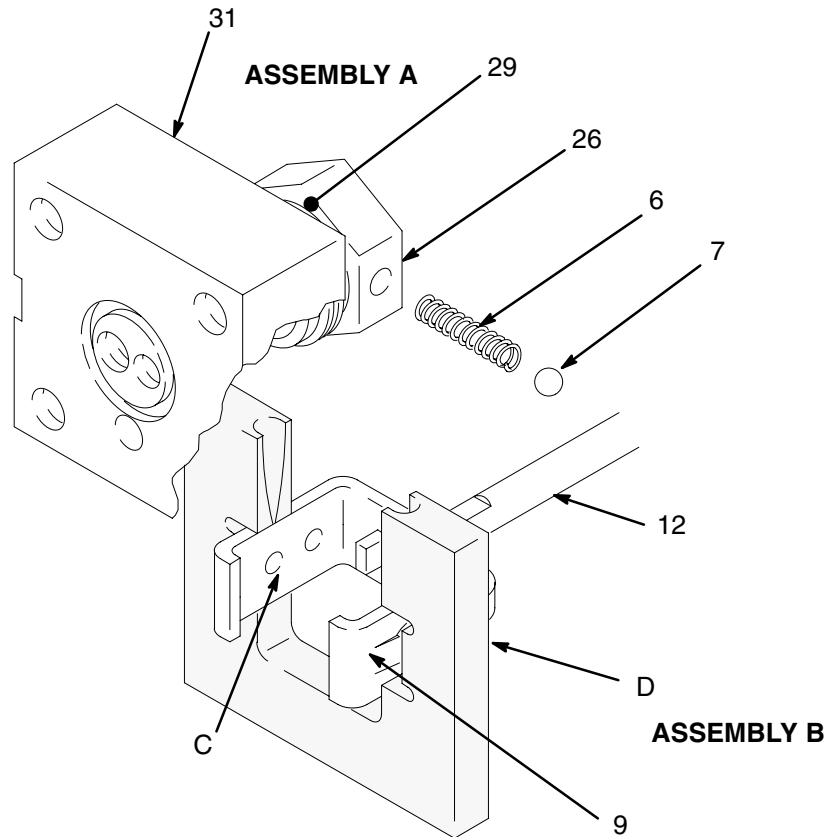

Fig. 10
14. Slide Assembly B into the center of the tool (D), Part No. 189305. Align the upper detent holes (C) of the yoke (9) with the center line of the tool (D). See Fig. 10.
15. Insert the spring (6) and one ball (7) into the valve stop (26) of Assembly A. Tilt the valve stop and start guiding it into the tool (D), making sure the ball is sliding into the rounded slot in the tool (D). Place the other ball at the other end of the spring and push it in with your thumb while rotating the valve stop (26) until the spring is horizontal and the balls are in place. Continue holding this assembly together. See Fig. 10.
16. Slide the valve stop assembly down into the tool. Make sure the balls (7) snap into the upper set of holes (C) in the yoke (9), and the curved ends of the guide clamp have engaged the valve sleeve (29) groove. See Fig. 10. Slide the tool (D) back over the rod (12) to remove it.